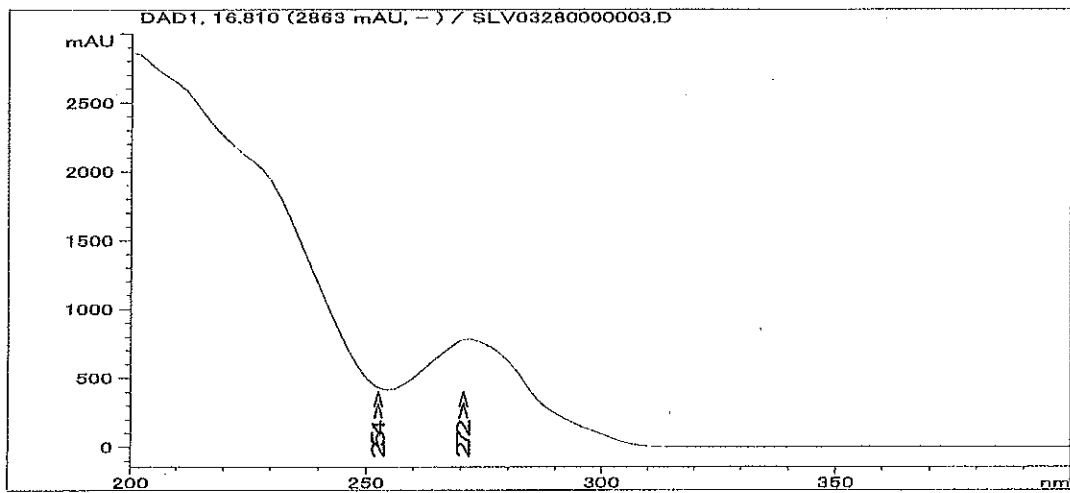

Fig. 2 UV spectrum of pyriproxyfen
**2.2 UV spectrum.** Use the HPLC method below and record the spectrum of the pyriproxyfen peak with a diode array detector. The spectrum obtained from the sample solution should not differ significantly from that of the calibration solution (Fig. 2).